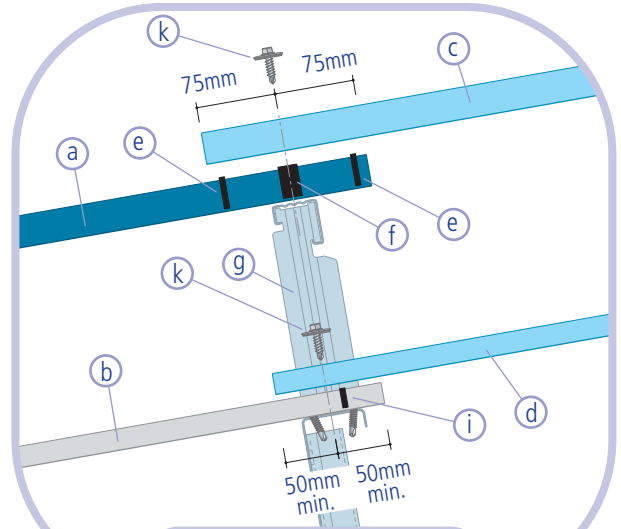

Figure 37
- Insulation omitted from figures 37 - 39 for clarity